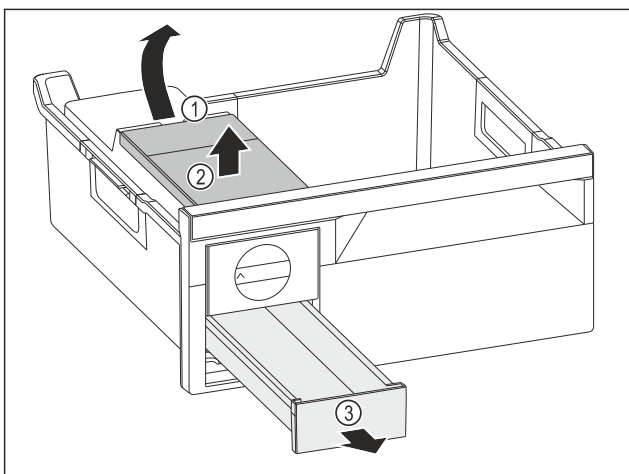

Fig. 170
- ▶ Removing the water tank: Lift the water tank by the recess Fig. 170 (1).
- ▶ Remove the water tank Fig. 170 (2) upwards.
- ▶ Remove the ice cube drawer Fig. 170 (3) to the front.